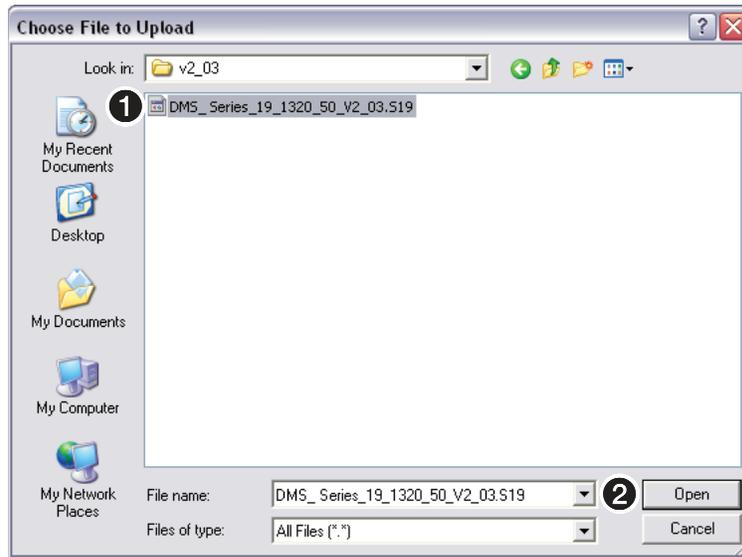

Figure 45. Choose File to Upload Dialog Box
If you are connected via the LAN port, the Choose File to Upload dialog box opens (see figure 45 and **Ethernet-connected firmware upload** on the next page).
1. Navigate to the folder where you saved the firmware upgrade file. Select the file (see figure 45, ①).